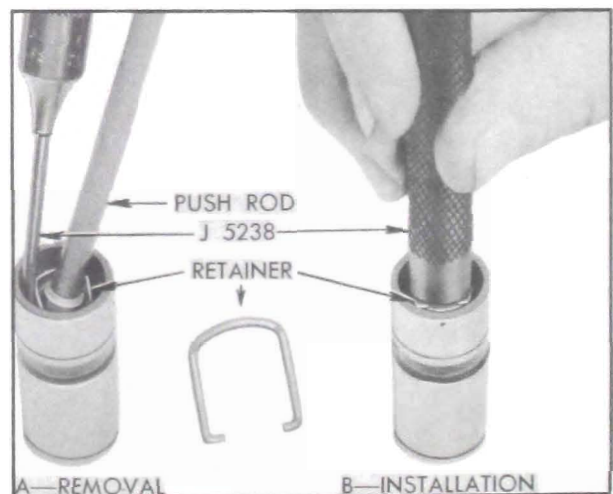

Figure 2-22—Removing and Installing Plunger Retainer
1. Disassemble each valve lifter by using a push rod to hold down the push rod seat while removing the plunger retainer from the lifter body, using Retainer Remover J 5238. See figure 2-22, View A. Remove push rod seat and plunger from lifter body.
3. Rinse push rod seat and plunger retainer, place these parts in end of body and depress with handle of Remover J 5238 until retainer engages groove in body. See figure 2-22, view B.